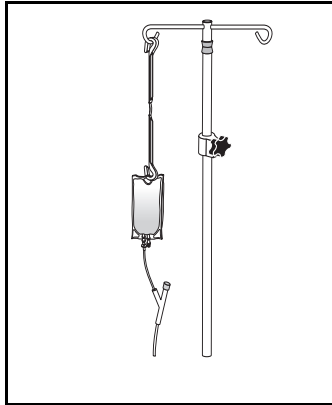

Figure 79: Primary Piggyback Pump
1. Ensure a primary piggyback pump set with a proximal Y-site backcheck valve is in use. Lower the primary container using the hanger provided with the piggyback set. Ensure the hanger is fully extended, as shown in Figure 79 below.